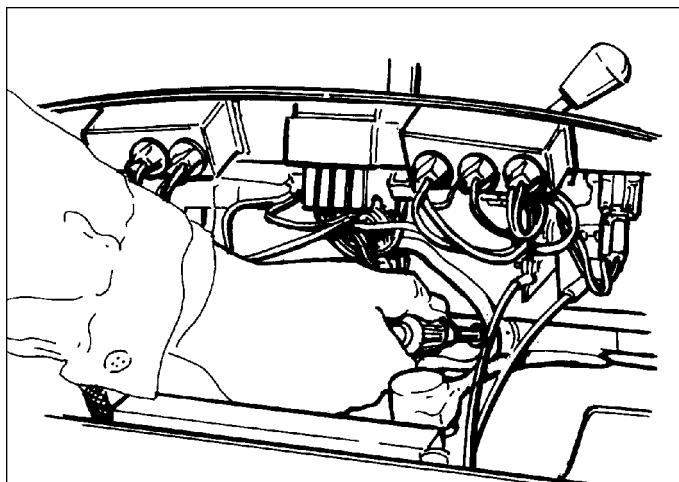

Figure D-9. Remove Rear Dash Mounting Screws
9. Using a 3/8" nutdriver or 3/8" socket with a 6" extension bar, remove the two whizlock capscrews with washers that secure the rear of the dash to the lower dash. Use care to avoid dropping the washers as the screws are removed. (This location also uses captive palnuts to simplify disassembly.) (Figure D-9)